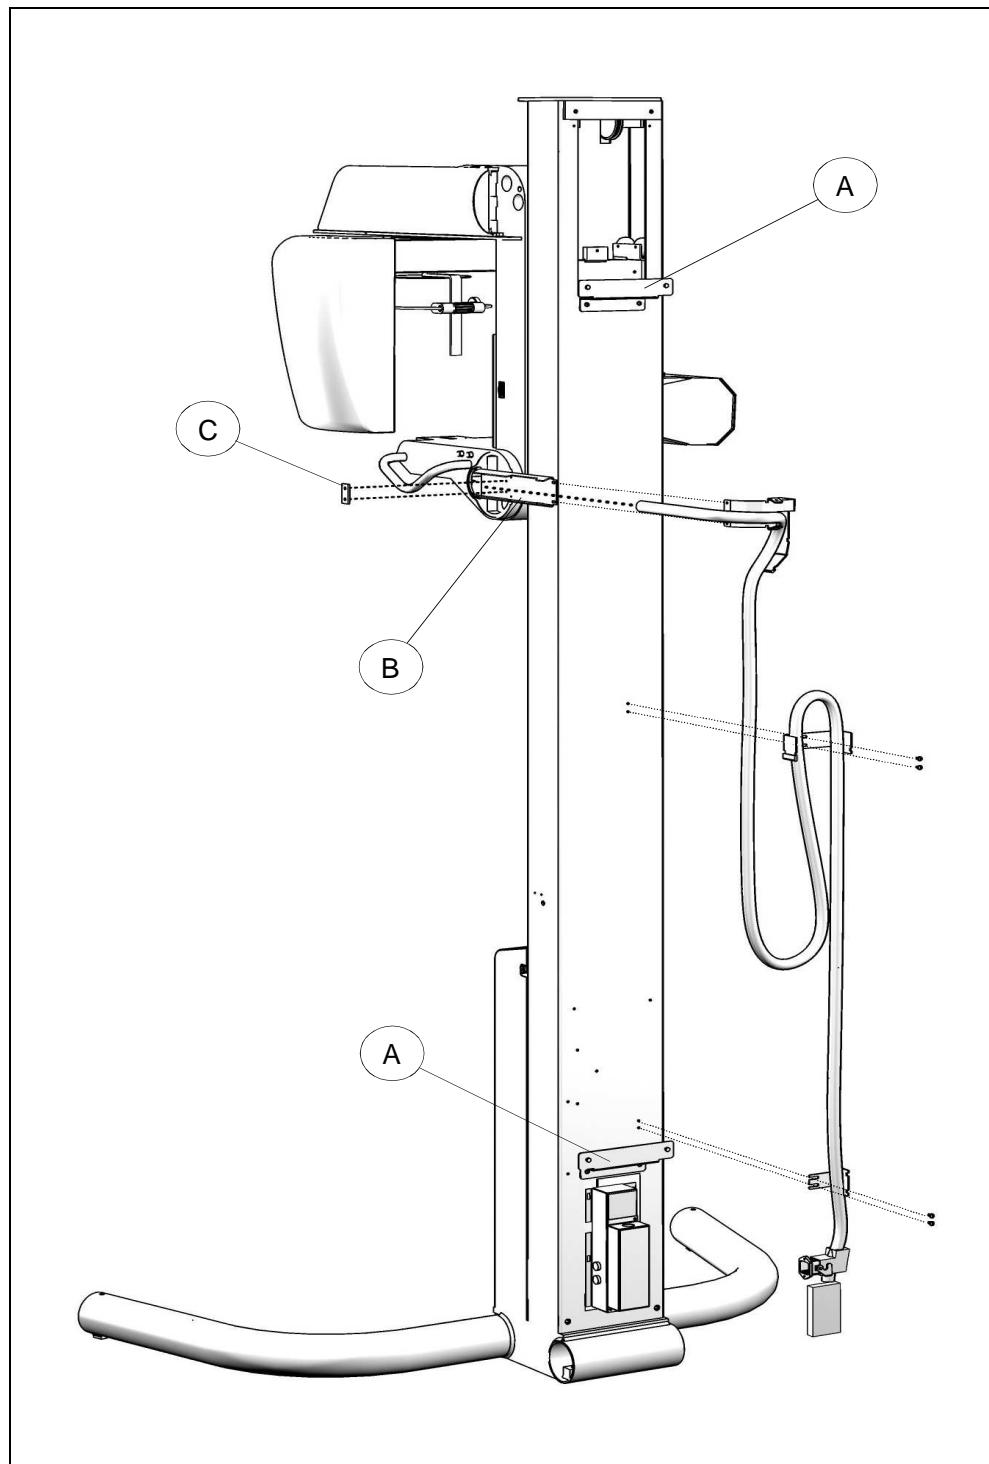

Figure 6-7
14. Install the two brackets "A" (code 5608100300) and the cable support bracket "B" (supplied inside the relevat cover) (Figure 6-7).
15. Fix the cables routing it as shown in Figure 6-7. The upper connectors have to enter inside the chin support through the relevant hole. Fix the cable to the bracket "B" using the plastic plate "C" (code 5608500600).